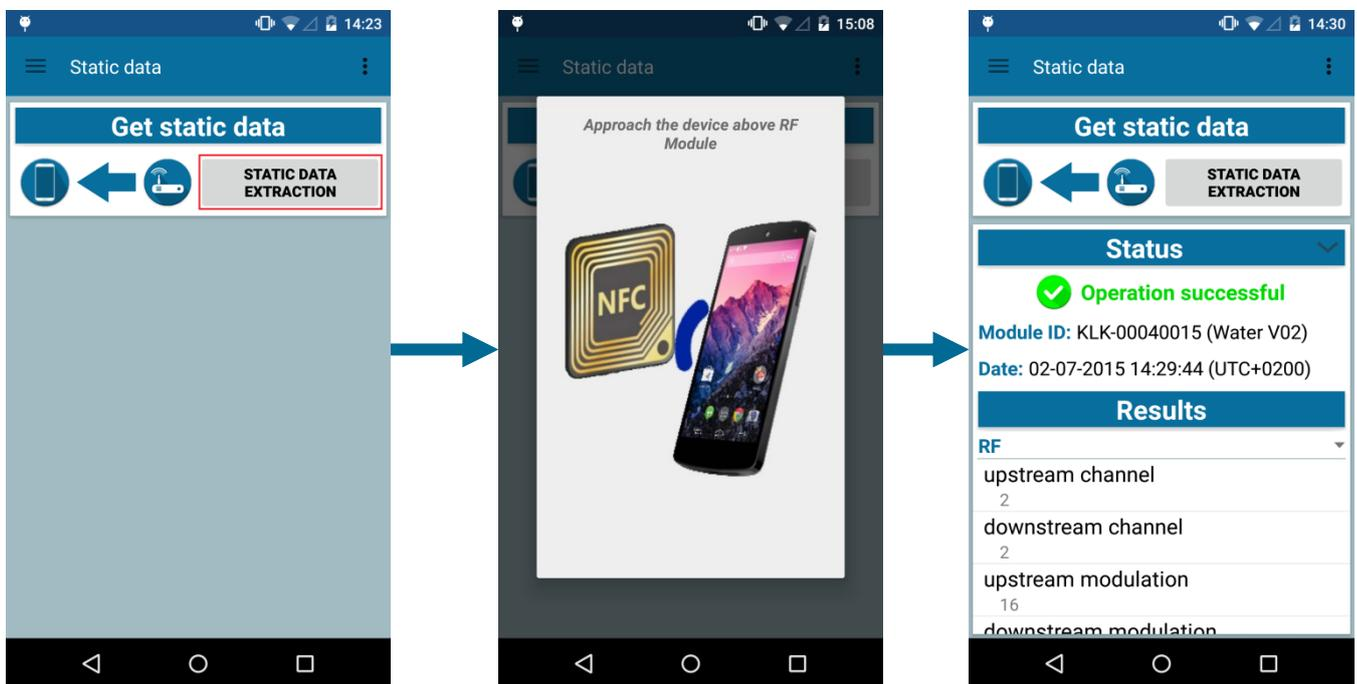

Figure 30: Static data extraction
- At the end of the operation, the result is displayed on the screen with the operation status and extracted static data are available in list and sorted by category (see Figure 30). Scroll the list among “Static data information, Identification, RF, LAN, Time, Scheduler, Measurement, NFC, Log, Status, Servicing, Le sense, Power and Mobile Readout” to find all the available data.